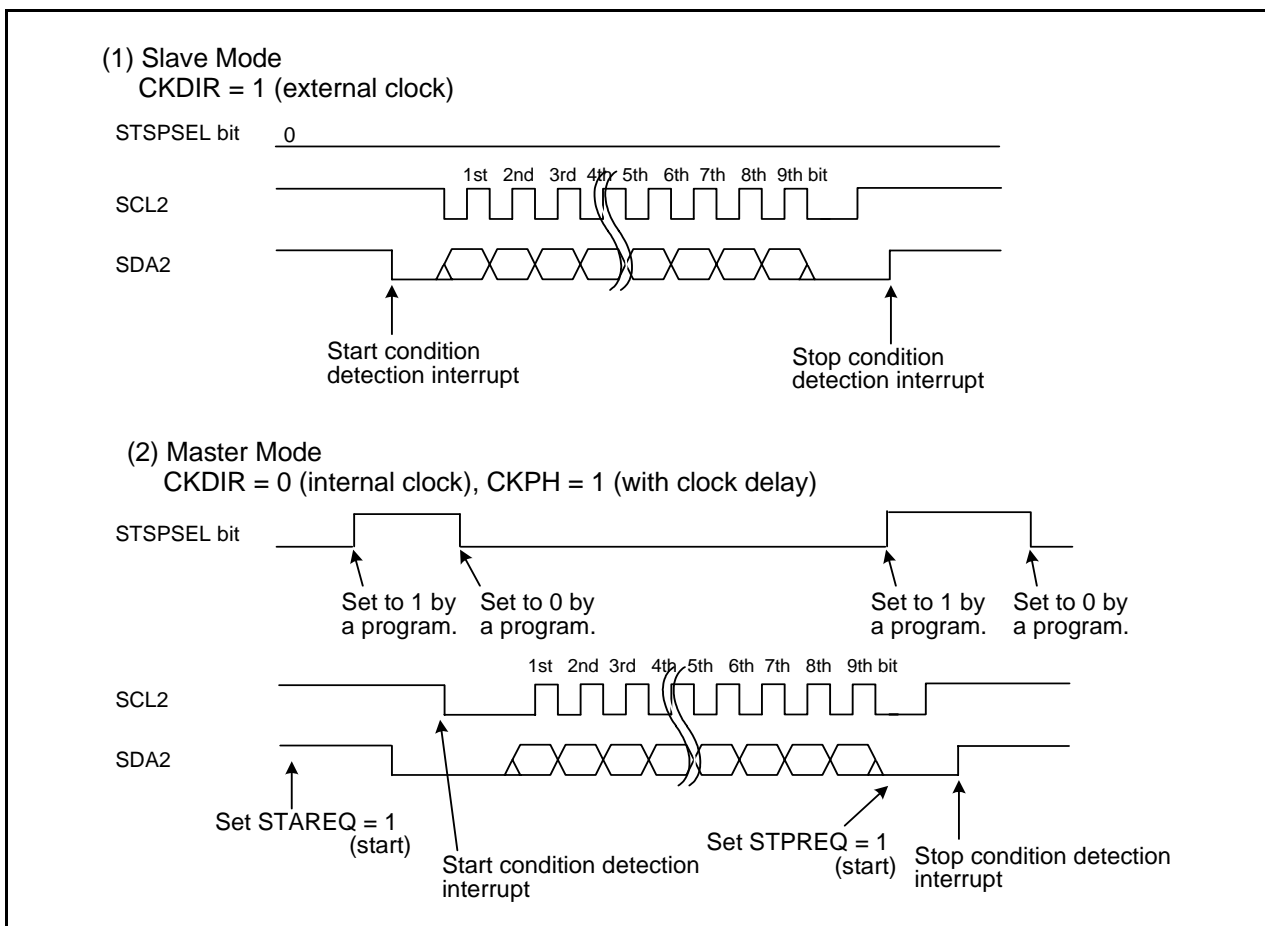

Figure 22.16 STSPSEL Bit Functions
5. Refer to **Figure 22.16 STSPSEL Bit Functions**.
Table 22.13 lists the STSPSEL Bit Functions. Figure 22.16 shows the STSPSEL Bit Functions.